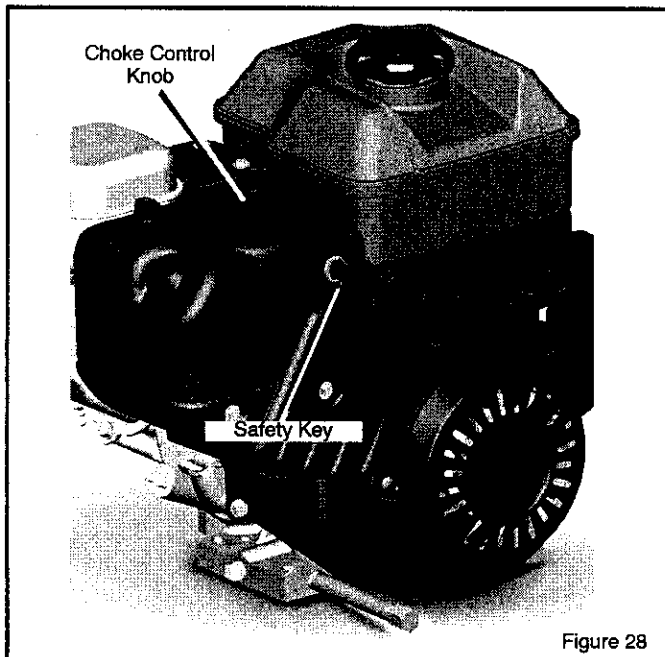

Figure 28
1. Remove the choke control knob (see Figure 28).